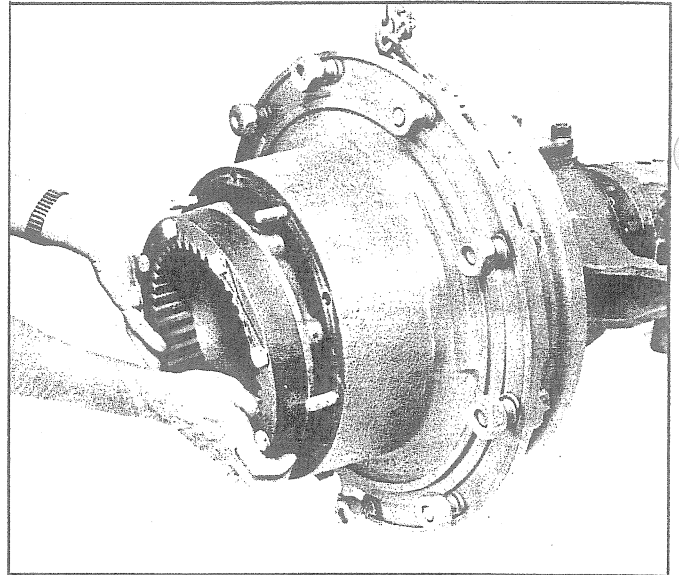

Fig. 31 - Installing Internal Ring Gear and Hub
25. With drum and hub still supported, slide planetary ring gear and hub over spindle as shown in Fig. 31.